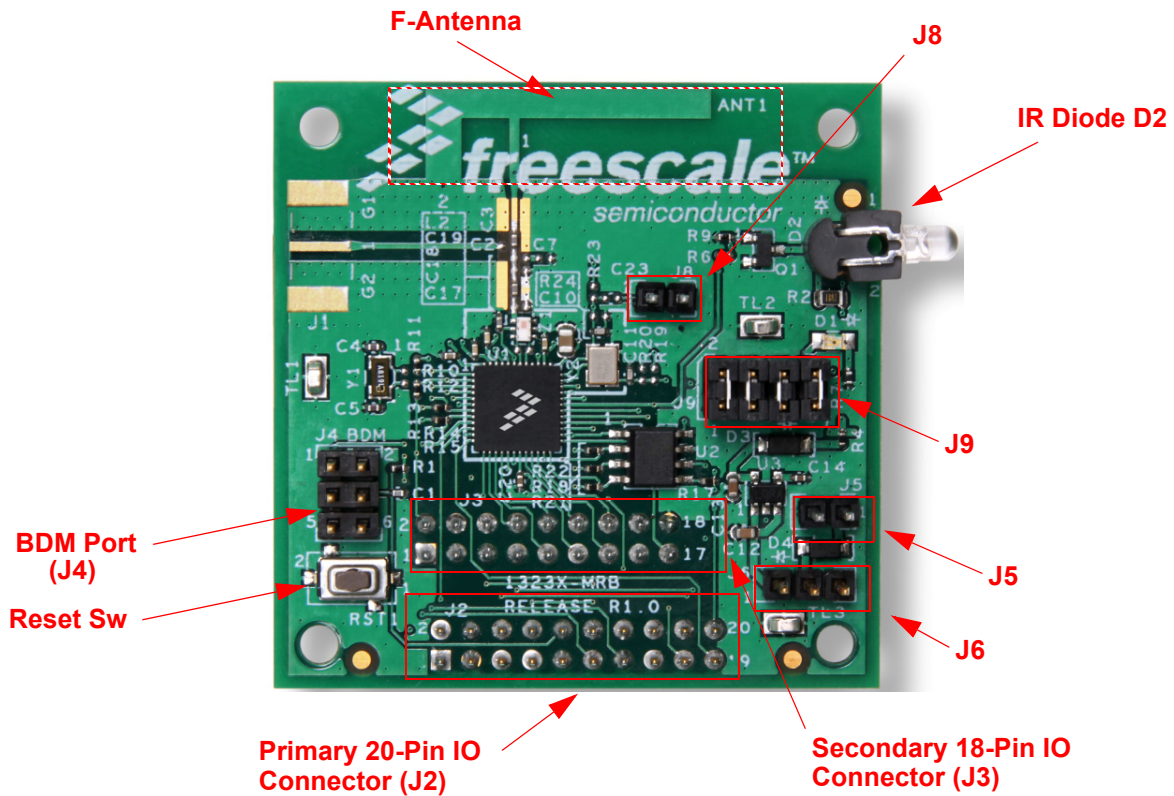
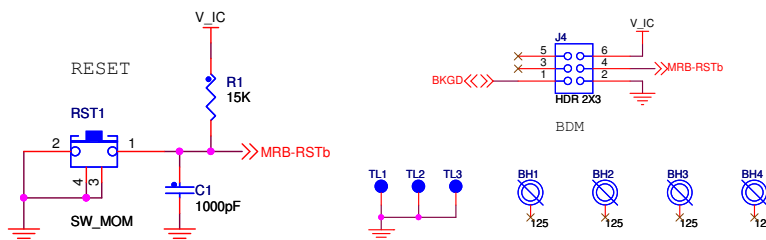

Figure 3-1. 1323x-Modular Reference Board (1323x-MRB)
Figure 3-7. 1323x-MRB Reset Switch and BDM Port
Figure 3-1 shows the 1323x-MRB connector and header locations.
- Figure 3-1 for location of connectors and features
The reset circuit and BDM port connector are shown in Figure 3-7. See Figure 3-1 for switch and header locations.